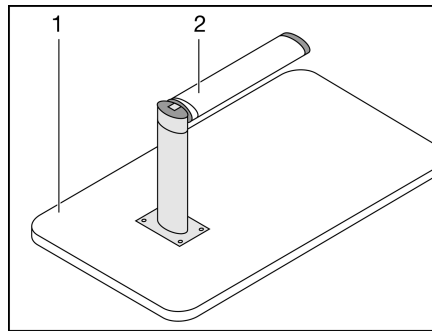

Fig. 52 Bed foundation
- Lift the front of the table-top (Fig. 52,1) by approx. 45°.
- Pull the lower part of the fold-out leg (Fig. 52,2) down and fold through 90°.